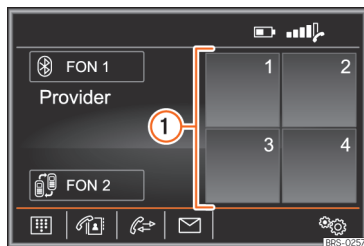

Fig. 230 PHONE main menu.
The speed dial keys » **Fig. 230** ① can be assigned a telephone number from the phone book.